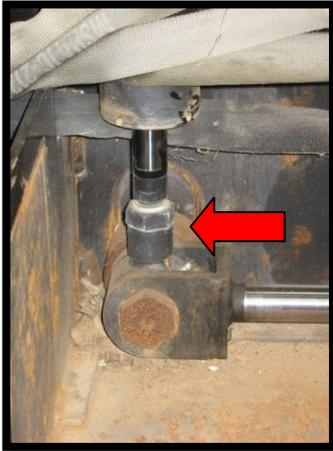

Fig. 11
17. Adjust sloping cylinder rod end in or out to make inner extension level to main screed. Fig. 11